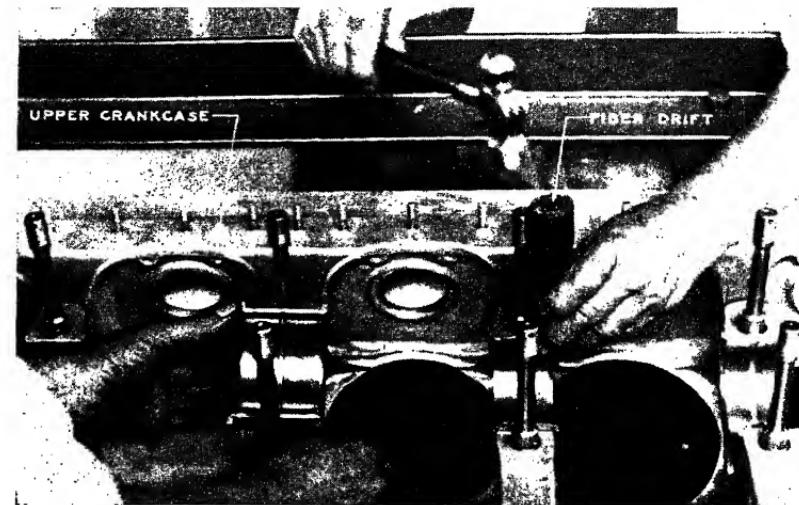

FIG. 26.—Installing main bearings in crankcase.
**Crankshaft, Connecting Rod, and Crankcase Assembly.**—Mount the upper crankcase on the assembly stand and rotate it until the case is inverted. Place the long accessories drive shaft in the tunnel of the upper crankcase. The driving gear is placed on the shaft. Install the tab washer and tighten the nut. Install the main bearing upper halves with numbers toward the accessory housing end of the engine. Figure 26 shows the method.